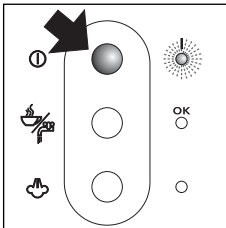
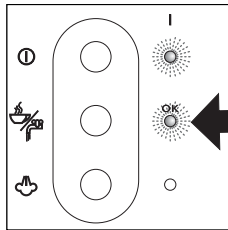
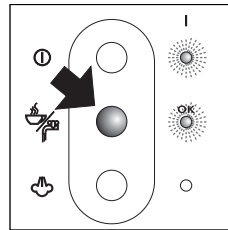
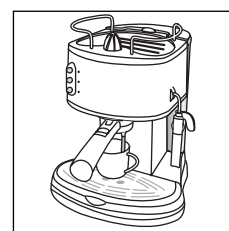

fig. 4
fig. 6
fig. 7
fig. 11
1. Press the ON/OFF button (fig. 4).
3. Position a cup under the filter holder. Use the same cup that the coffee will be served in, so that it may be preheated. Wait until the "OK" light comes on (fig. 6), then immediately press the coffee knob (fig. 7). Allow the water to run until the OK indicator light goes out, then stop the water by pressing the coffee button again (fig. 7).
4. Place the cup or cups (cups can be preheated by rinsing under hot water or heating on the cup warmer plate for 10 minutes) on the removable drip tray (fig. 11). Ensure that the cup or cups line up with the dispensing holes on the filter holder. Press the on/off button (fig. 4).
5. Wait until the "OK" light comes on (fig. 6) then press the coffee button (fig. 7). Once the required quantity of coffee has been obtained, interrupt delivery by pressing the same button again (fig. 7).
8. To turn the coffee machine off, press the ON/OFF button (fig. 4).
1. Turn the appliance on by pressing the ON/OFF button (fig. 4). Wait until the OK indicator light comes on (fig. 6).
3. Press the coffee button (fig. 7) and at the same time open the steam knob. Hot water is delivered from the cappuccino maker.